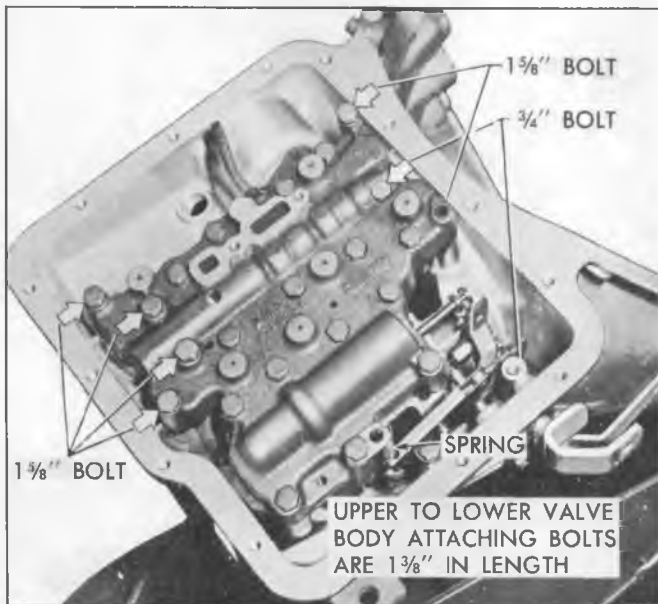

Fig. 11PG--Valve Body Removal
23. Remove the remaining valve body-to-transmission case attaching bolts (indicated by arrows in Figure 11PG) and carefully lift out the valve body and gasket, disen-